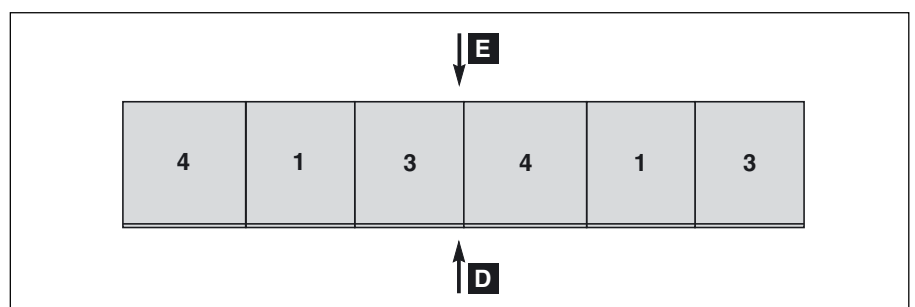

Fig. 7
- ▶ see figure 7 for two parallel-connected **MGE™ Galaxy™ PW** units with battery and auxiliary cubicles.